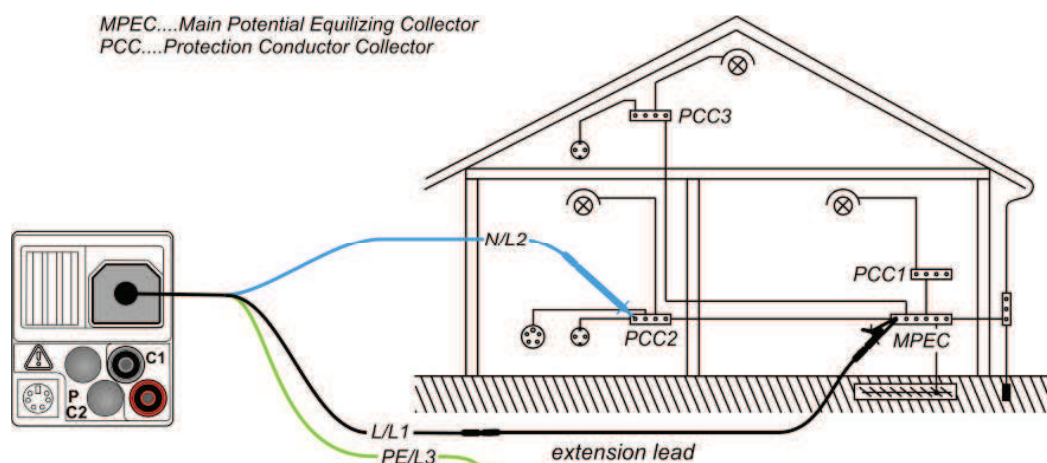

Figure 5.9: Connection of the three-wire test cable and the optional 40 m measuring line BENNING TA 5 (044039)
- ❑ Connect the test cables to the test object (see figure 5.9).